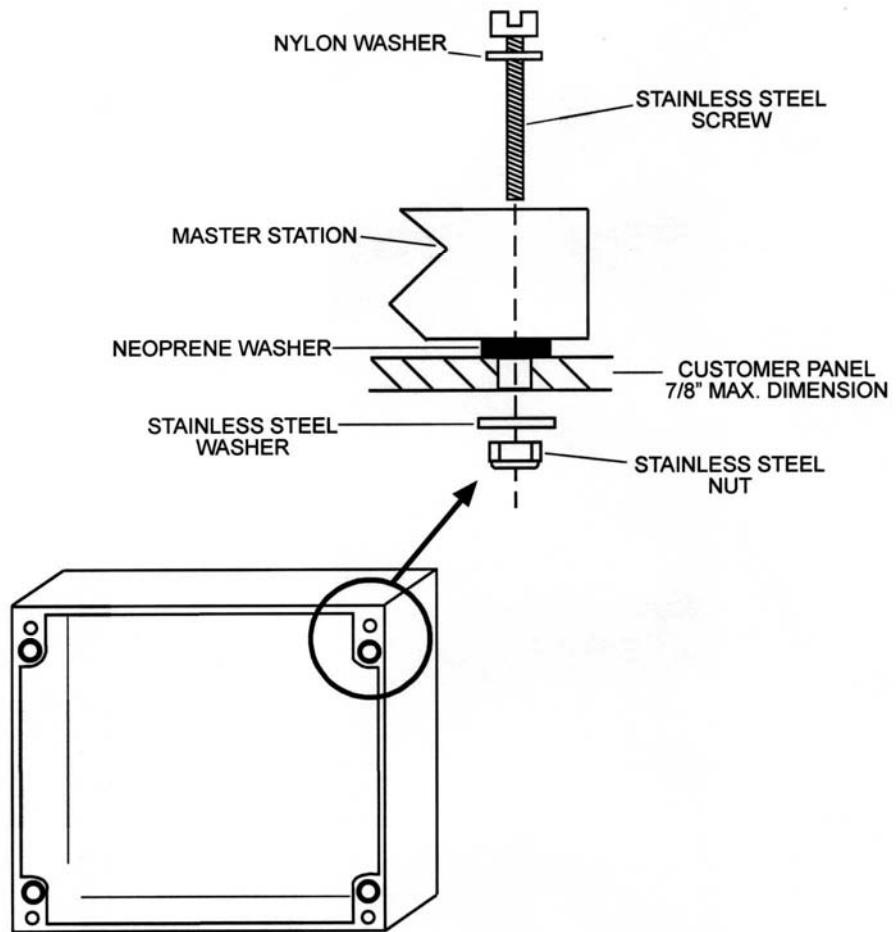

Figure 2: Master Station mounting diagram
- q Mount the Master Station using the hardware provided. Slide nylon washer over each screw before using. Place a neoprene washer between the Master Station and the surface where each screw is located. Use a stainless-steel washer on the back side of the surface under each nut. Secure tightly with a stainless-steel lock-nut. See **Figure 2**.